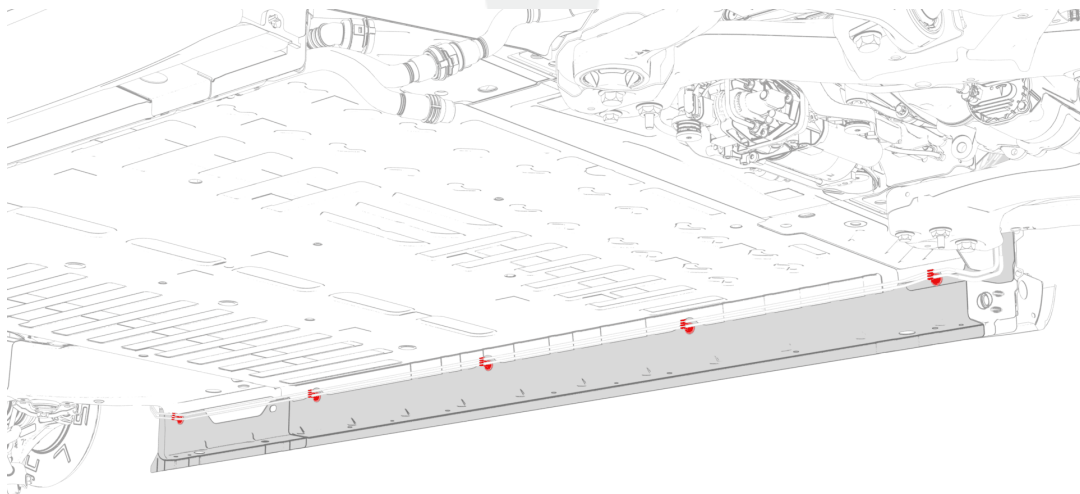

Figure 1
4. Position the LH side sill brake lines (x2) to the vehicle, and then fasten the clips (x5) that attach the brake lines to the vehicle (Figure 1).